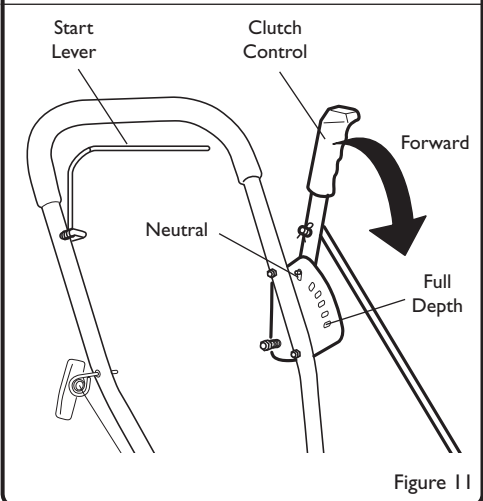

Figure 11
1. To engage the cutting blade, move the clutch lever forward. (See Figure 11)
**THE ENGINE WILL NOT START IF THE START LEVER IS NOT PULLED AGAINST THE HANDLE (FIGURE 11).**